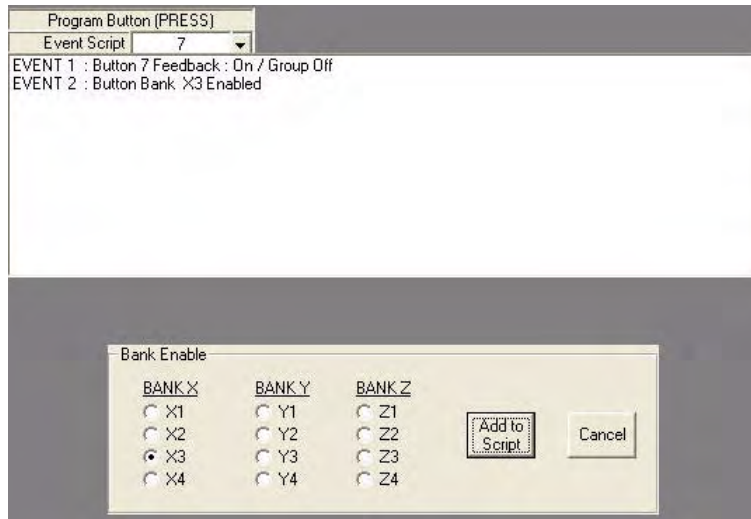

FIG. 70 Button 7 script, with Enable X3 Bank selected
7. Write a script and include Enable Bank X3 (FIG. 70).